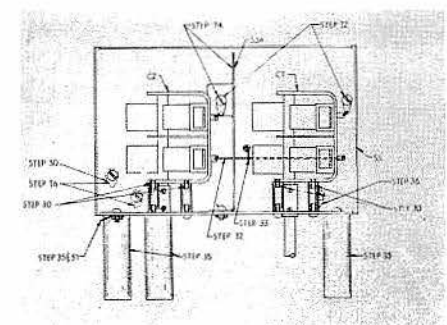

Fig. 3—Resistance box—Inboard view
30. Tap the threeholes on the face of each capacitor, using a 6-32 tap. Take care not to damage the first stator plate; a bottom tap may be necessary. Attach three type I2 insulators to C1 and C2, using  $\frac{1}{4}$ -inch-long 6-32 set screws as shown in Fig. 3. This completes preliminary metalwork.
31. Attach C1 and C2 to shield box S5 using six  $\frac{1}{4}$ -inch-long 6-32 machine screws. Connect stator lugs of C1 to those of C2 with No. 18 tinned wire, as shown in Fig. 3.
32. Mount two soldering lugs as shown in Fig. 3 and connect remaining stator lugs to them, using No. 18 tinned wire.
33. Press the Eric CF-408 feed-thru into the 0.136-inch diameter hole in S5. Solder a short No. 18 tinned lead from the inside terminal of this insulator to the wire installed in step 31, as shown in Fig. 3.
35. Attach four type I3 insulators to shield box S5 as shown in Figs. 3 and C9.
36. Attach three more soldering lugs to S5 as shown in Fig. 3, using  $\frac{1}{4}$ -inch-long 6-32 machine screws.